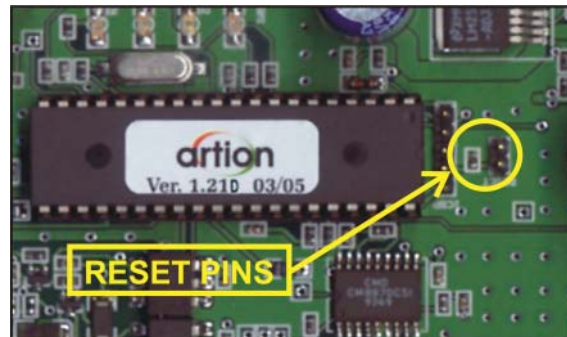

Figure 3-2: Reset pins
- 2) Place jumper at the pins shown in Figure 3-2.